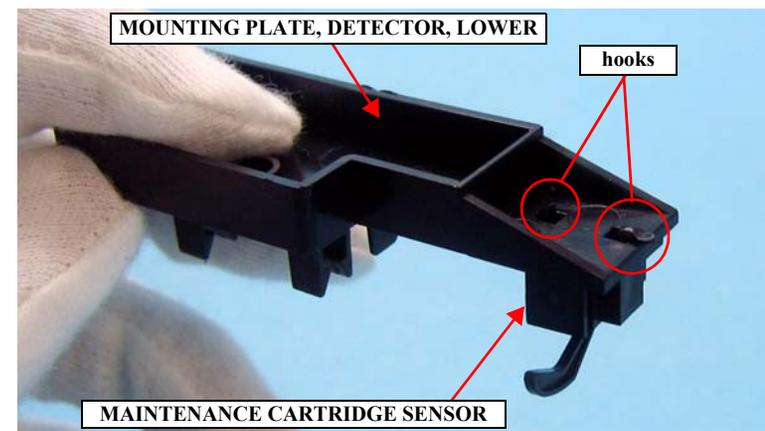

Figure 4-52. Removing the MAINTENANCE CARTRIDGE SENSOR
5. Disengage the two hooks that secure the MAINTENANCE CARTRIDGE SENSOR to the MOUNTING PLATE, DETECTOR, LOWER, and remove the MAINTENANCE CARTRIDGE SENSOR. *See Figure 4-52.*